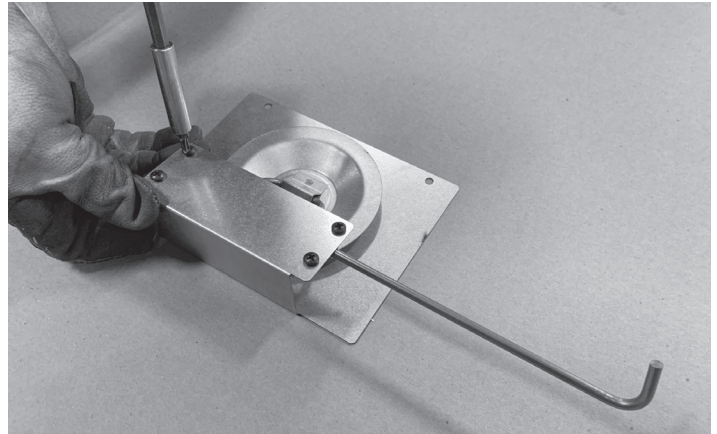

Figure 7
3. Attach the appropriate Outside Air Door (left or right) to the Outside Air Bracket as shown. See Figure 7.